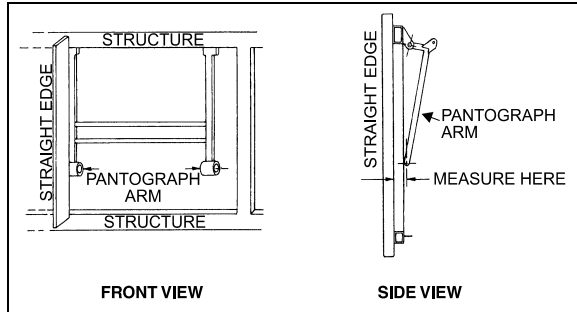

FIGURE 58: PANTOGRAPH DOOR ADJUSTMENT 18062
3. Install another piece of 2x4 between the first piece and the bottom of the pivot of the lowest (or shortest) pantograph arm, (Fig. 58).